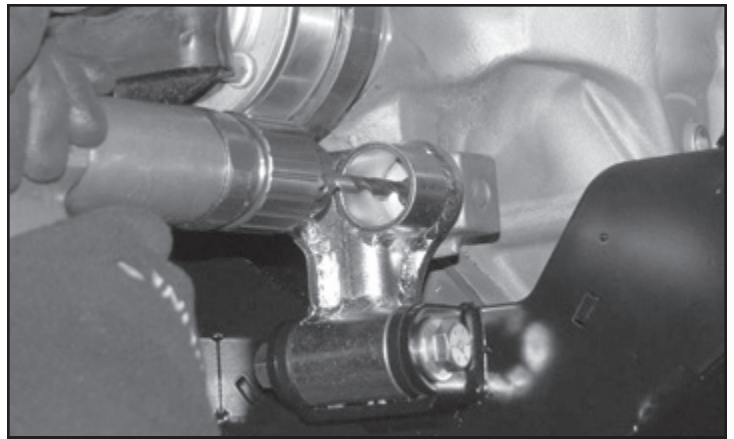

FIGURE 36 - STEP 32
32. Use the rear bracket as a drill guide to drill a 1/2" hole through the block on the rear of the diff. **SEE FIGURE 36**